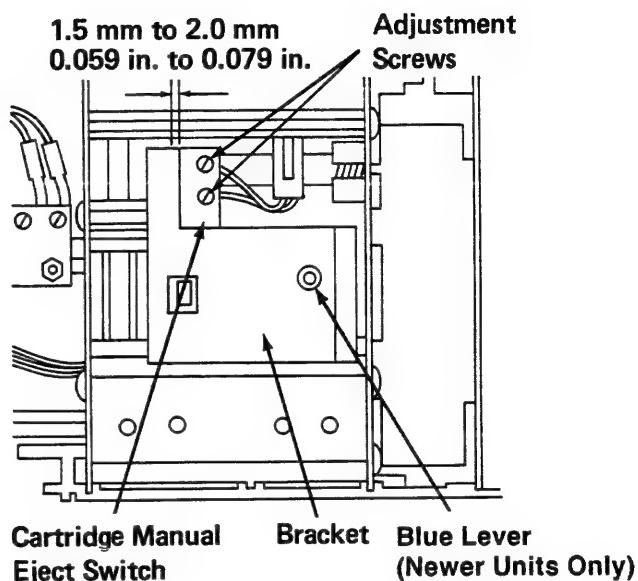

Figure 3-10.11A
8. For Older (no Blue Lever) units, turn the Film Speed Control to Diagnostic Code 4 and insert a cartridge. The status code should read 1. Place a Ruler on the left side of the machine and push the Bracket 1.5 mm to 2.0 mm (0.059 in. to 0.079 in.). See Figure 3-10.11A. The Status Code should change to 0.
1. Loosen the Adjustment Screws for the Cartridge Manual Eject Switch (S12) and reposition as required. See Figure 3-10.11A.